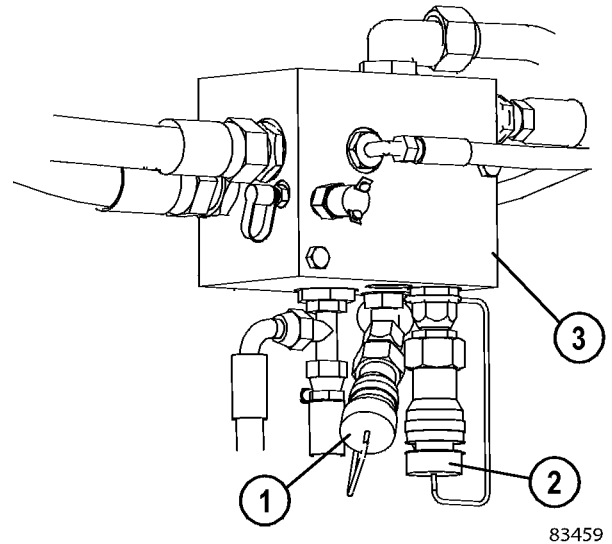

FIGURE 30-3. BLEEDDOWN MANIFOLD
In the example below, Figure 30-3 illustrates a typical hookup from the good truck. The disabled truck may be another Model 730E or a different Komatsu model.
1. With the good truck parked as close as possible to the disabled truck, attach a hose from the power up quick disconnect (1, Figure 30-3) to the power down circuit of the disabled truck. The hose must be rated to withstand 17 237 kPa (2,500 psi) or greater pressure.
NOTE: If both trucks are a model 730E, the hoses will be installed at the quick disconnects shown in Figure 30-3 and will be crossed when connected.